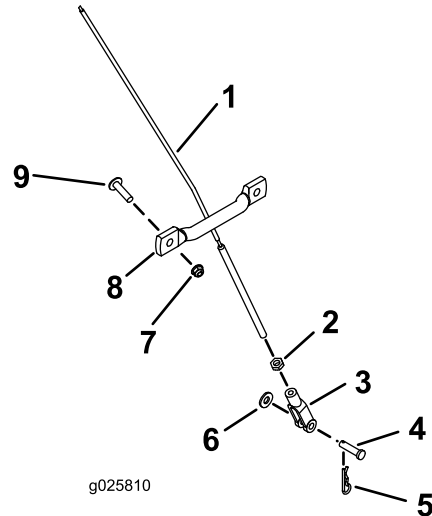

Figure 12
8. Using the truss screws (1/4 x 1 inch) and the serrated-flange nuts (1/4 inch), install the cable guides on the left and right side of the hopper (Figure 12).
11. Install the jam nuts (1/4 inch) and the yokes to bottom end of the cables (Figure 12).
12. Fasten the cables to the brackets on the frame using the clevis pins (1/4 x 1 inch), washers (1/4 inch), and hairpin cotters (1/4 inch) as shown in Figure 12.